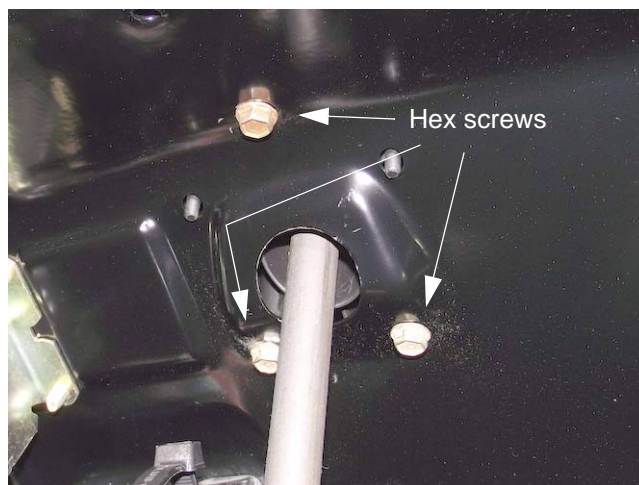

Figure 4.19
4. Remove the three hex screws under the dash securing the steering support to the lower dash panel. See Figure 4.19.